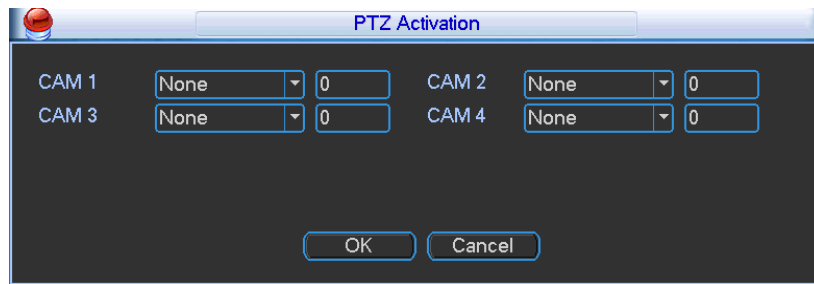

Figure 4-63
- PTZ activation: Here you can set PTZ movement when an alarm occurs. System can go to a preset, when there is an alarm. Click "select" button, you can see an interface is shown as in Figure 4-63.